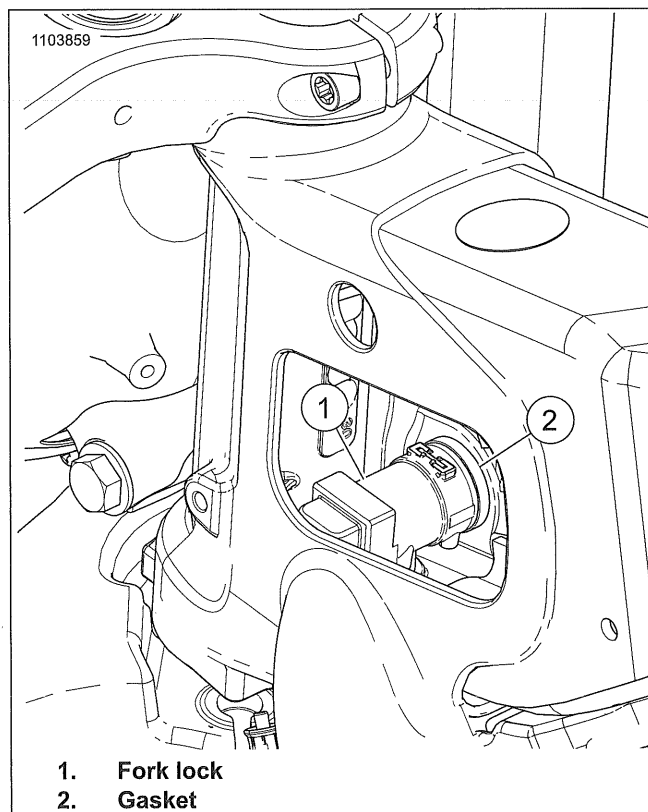

Figure 3-81. Fork Lock Location
3. See Figure 3-81. Remove fork lock (1) and gasket (2).
2. See Figure 3-81. Place fork lock and gasket in position.